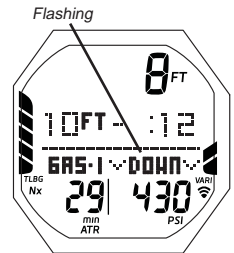

Fig. 85 - CV MAIN
- > The graphic DOWN with Down Arrow icons flash (Fig. 85) until within 10 FT (3 M) of and below the required Stop Depth (within the stop zone), then they are removed.